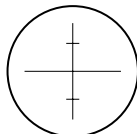

Fig.4.6
- 1) Use the peep sight ② to point the objective lens ⑧ at the target.
- 2) Gradually turn the eyepiece ⑬ until just before the reticle cross-line becomes blurred. (Fig.4.6)